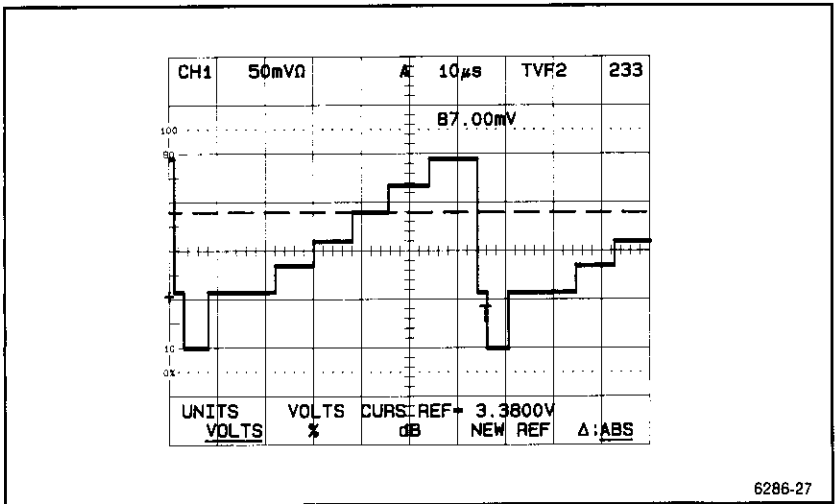

Figure 3-11. Voltage measurement of a step on a stair-case signal using the VOLTS cursor function in the ABS mode.
4. Read the voltage level of the waveform (at the cursor) with respect to ground from the cursor readout. (See Figure 3-11.)